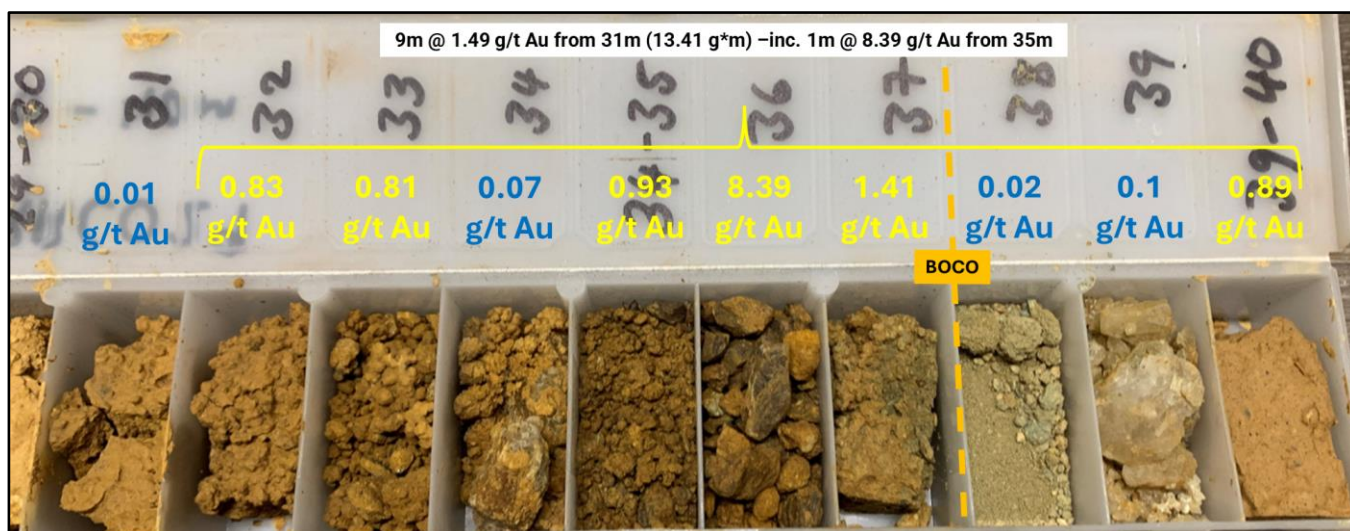

Figure 1: SRRC029 - Mineralised interval from 31m to 40m.
- SRRC029: 9 metres @ 1.49 g/t Au from 31m (13.41 g*m), including 1m @ 8.39 g/t Au from 35m (See Figure 1)**